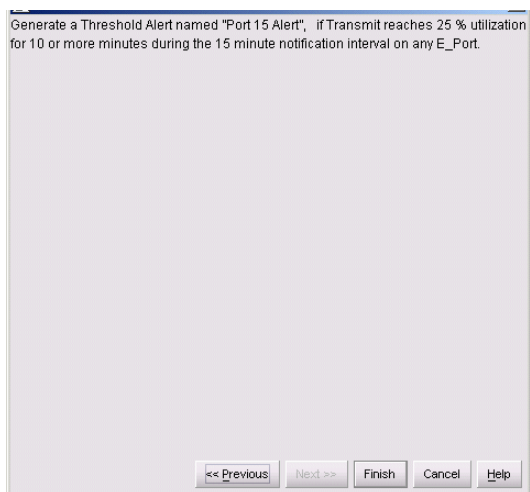

Figure 52 New Threshold Alerts dialog box - summary screen
11. Click **Next**. A final screen displays to provide a summary of your alert configuration, as shown in Figure 52.